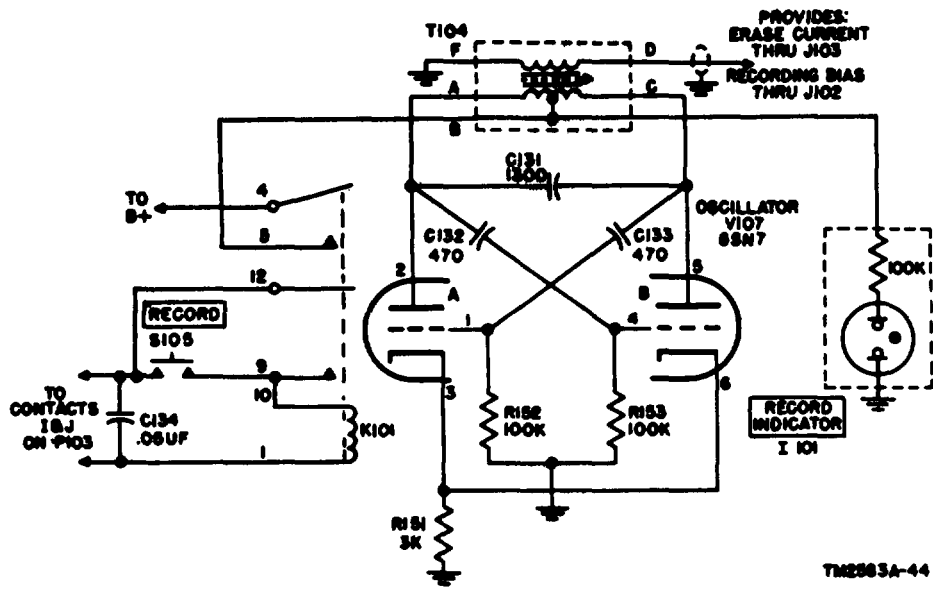

Figure 24. Erase-oscillator circuit, simplified schematic diagram.
53. Recording Amplifier and Erase-oscillator circuit (fig. 24 and 49)
h. Erase-oscillator V107 (fig. 24). The 65-kc push-pull oscillator supplies recording bias and erase currents to the recorder and erase heads of the soundhead assembly. The amount of erase current (fed through connector J103) is determined by the setting of capacitor C115. The level of recording bias (fed through connector J102) is determined by the setting of resistor R125 and capacitor C114. The frequency of oscillation is determined by the tank circuit consisting of capacitor C131 and the primary of oscillator transformer T104. With plate voltage applied through the primary of transformer T104 and contacts 4 and 5 of relay K101, tube V107A conducts, and voltages of the resonant frequency (65 kc) of the tank are developed and fed to the control grid of tube V107B through capacitor C132. Tube V107B conducts and voltages of the resonant frequency of the tank are coupled to the control grid of tube V107A through capacitor C133. The capacitor coupled feed-back voltage maintains the oscillations in both tubes. At the positive peaks of the feed-back voltage to the con-